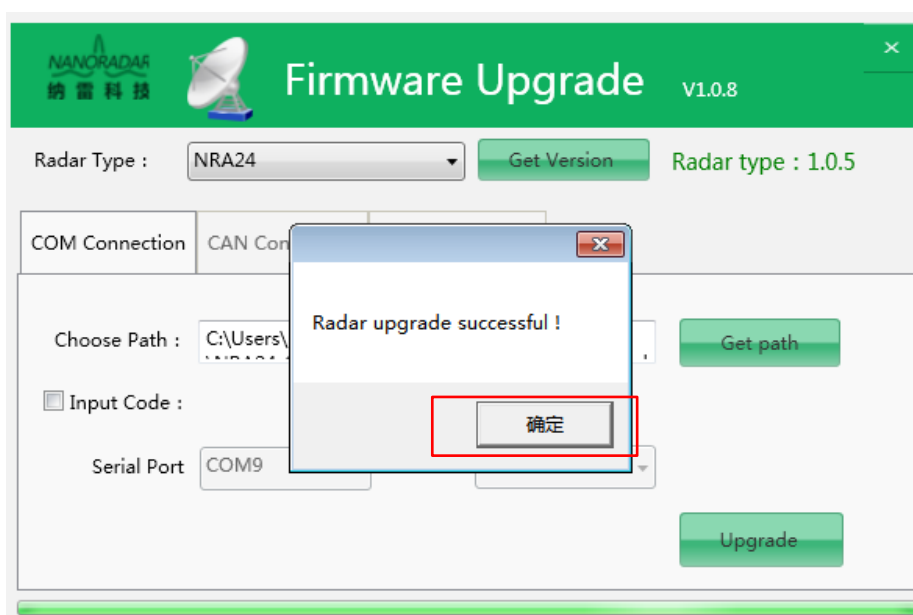

Figure 17 Upgrade successful
e) After dozens of seconds, it will pop up "Radar upgrade successful" window, click "ensure" button, upgrade work is completed, as figure 17.